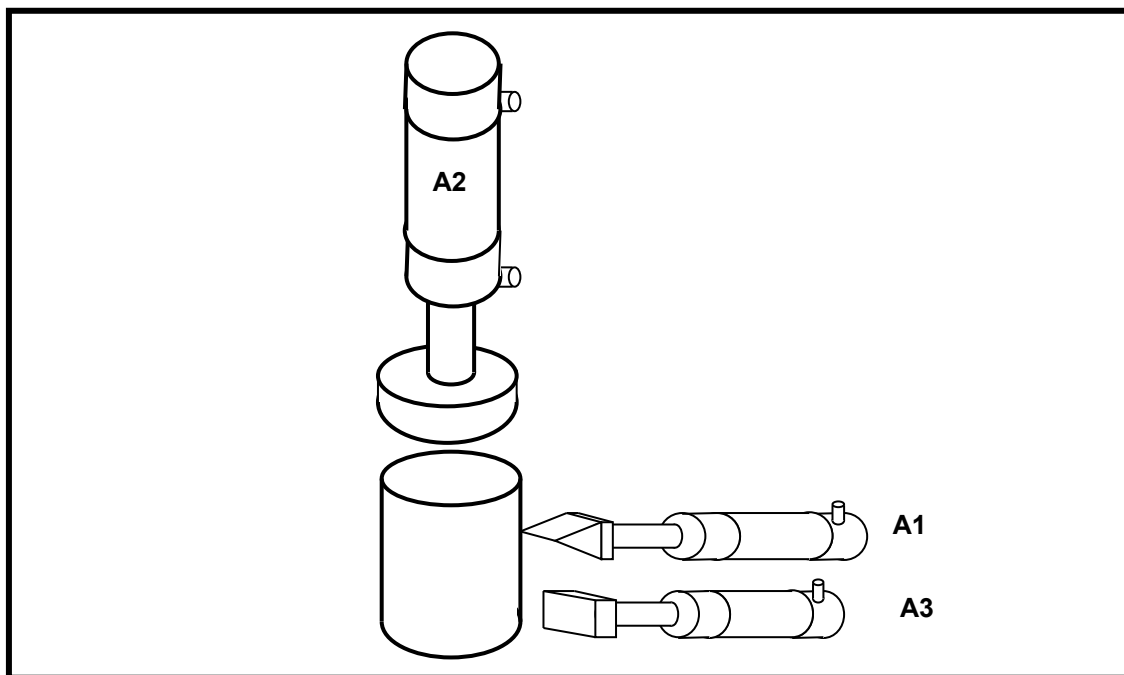

FIGURE 3
The soft-drink can crusher shown in FIGURE 3 is used to make the transport of the cans easier. It is manually operated using pneumatics to do the work.
- 3.1 Name the type of pneumatic cylinder represented by A2 in FIGURE 3. (1)
- 3.2 Draw the IEC symbol of the cylinder represented by A2 in FIGURE 3. (2)
- 3.3 What type of pneumatic cylinder is represented by A1 and A3 in FIGURE 3? (1)
- 3.4 Draw the IEC symbol of the cylinder represented by A1 and A3 in FIGURE 3. (2)
- 3.6 Draw the status step diagram representing the task process represented by the three cylinders in FIGURE 3. (10)
- 3.7 What pneumatic device would you use to detect the position of the three cylinders used in the task shown in FIGURE 3? (2)
- 4.4 Draw a electropneumatic control circuit using fully labelled IEC symbols to meet the requirements of the task outcomes of FIGURE 3 and the status step diagram developed in QUESTION 3.6, using push buttons, solenoid valves, sensors and cascaded timers. (8)